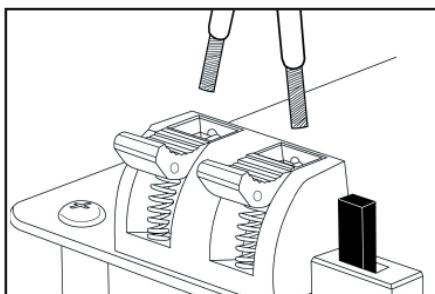

Figure 15. Connecting a loudspeaker wire to the HDFX terminals.
2. On each set of loudspeaker connectors, press down the spring-loaded lever, insert the appropriate conductor, and then release the lever, as shown in **Figure 15**. Gently tug on the loudspeaker wire to make sure it is held in place. If not, repeat this procedure until it is.